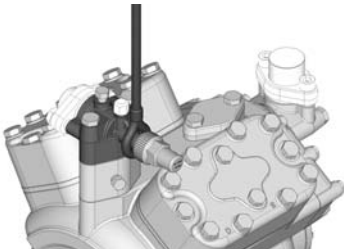
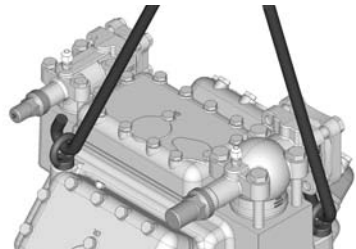

Fig. 10
Fig. 11
- Transport and suspension unit on the eyebolt (Fig. 11, F14 to F16) or direct on the discharge line valve (Fig. 10, F2 to F5).